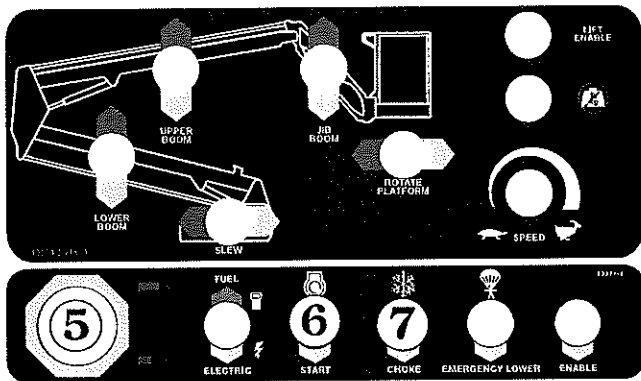

Figure 8.8
4. Set the **Emergency Stop** switch **5** to (ON) (see Figure 8.8).
5. If the engine is at ambient temperature (cold), hold the **Choke Switch** **7** (see Figure 8.8) DOWN throughout the next step.
7. Press down on the **Start Switch** **6** and hold it there until the engine starts or for a maximum time of 6 seconds. When the engine starts, release the start switch **6** and the choke switch **7**, if you used it (see Figure 8.8).